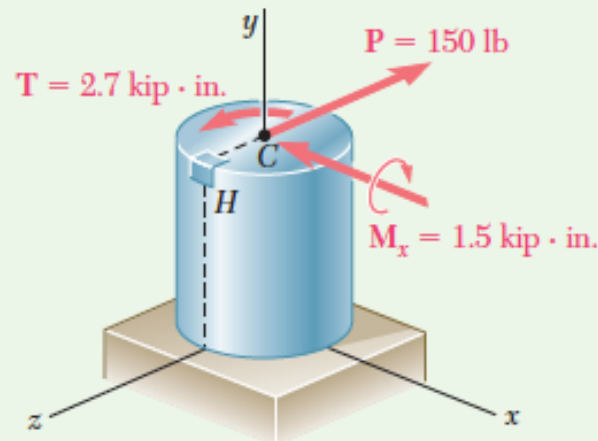

Fig. 1 Equivalent force-couple system acting on transverse section containing point H .
Force-Couple System. We replace the force \mathbf{P} by an equivalent force-couple system at the center C of the transverse section containing point H (Fig.1):
a. Stresses σ_x , σ_y , τ_{xy} at Point H. Using the sign convention shown in Fig. 7.2, the sense and the sign of each stress component are found by carefully examining the force-couple system at point C (Fig. 1):